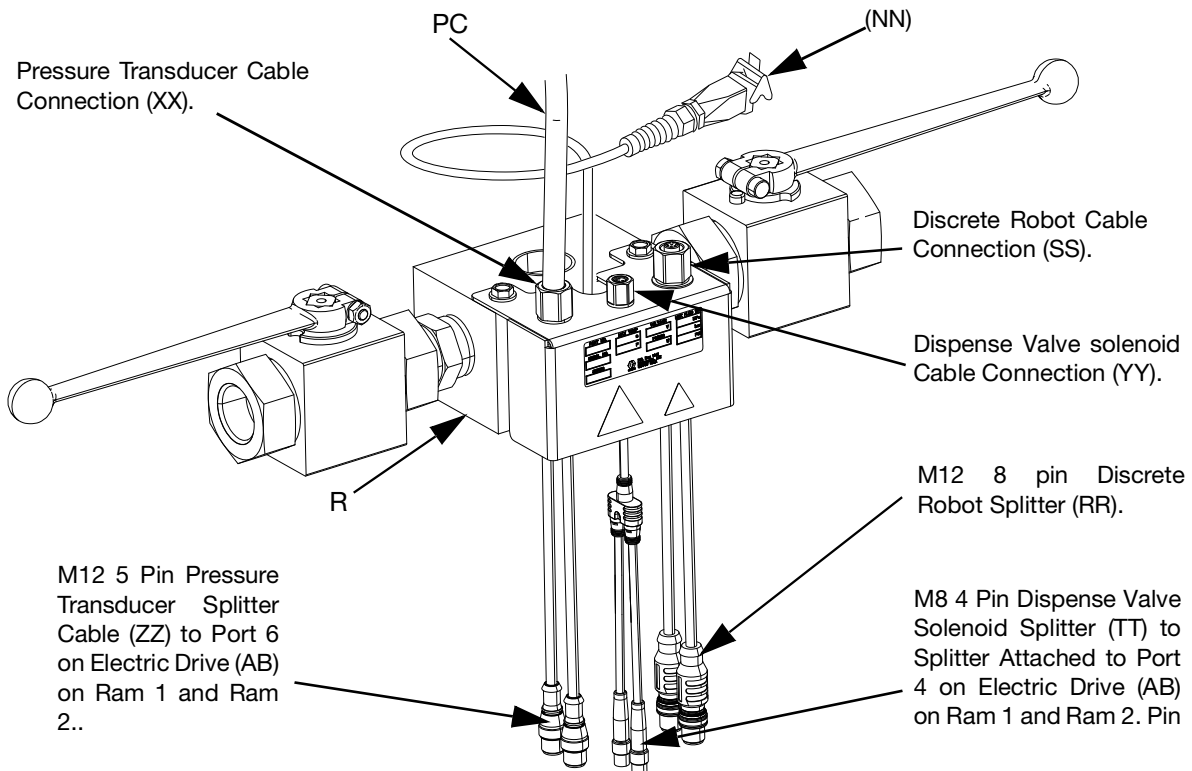

FIG. 30
- If using a Single iQ Ram Supply System, connect the pressure transducer cable (PC) from dispense valve (B) to Port 6 on the Electric Driver (AB). See **Electric Driver Communication Connections** for Single Rams on page 18.
- Connect the Pressure Transducer Cable (PC) from the Dispense Valve (B) to the Tandem Block Valve Pressure Transducer Splitter. See FIG. 30.
- Connect one male end of the M12 5 pin Pressure Transducer Splitter cable (ZZ) on the Tandem Block (R) to Port 6 on the Electric Driver (AB) on Ram 1. The second male end goes to Port 6 on Ram 2. See **Electric Driver Communication Connections for Tandem Rams** on page 19.